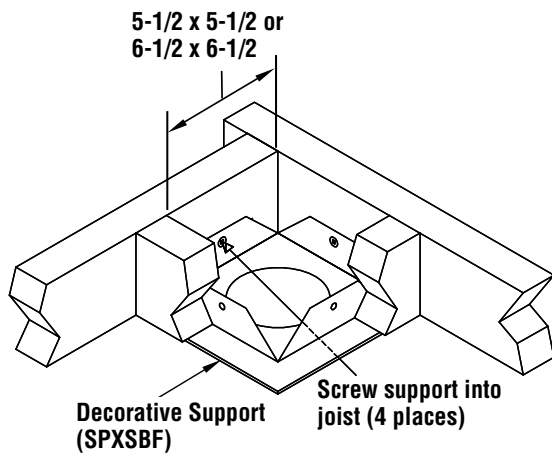

Figure 5a
3. Place the decorative support under the ceiling in the center of the hole. Screw it in the joist using four #8 x 1-1/2" wood screws. Screw from underneath through the opening for the vent using a long screw bit. The decorative support also acts as a firestop. It is mandatory to install the insulation provided with this support (see figure 5a).